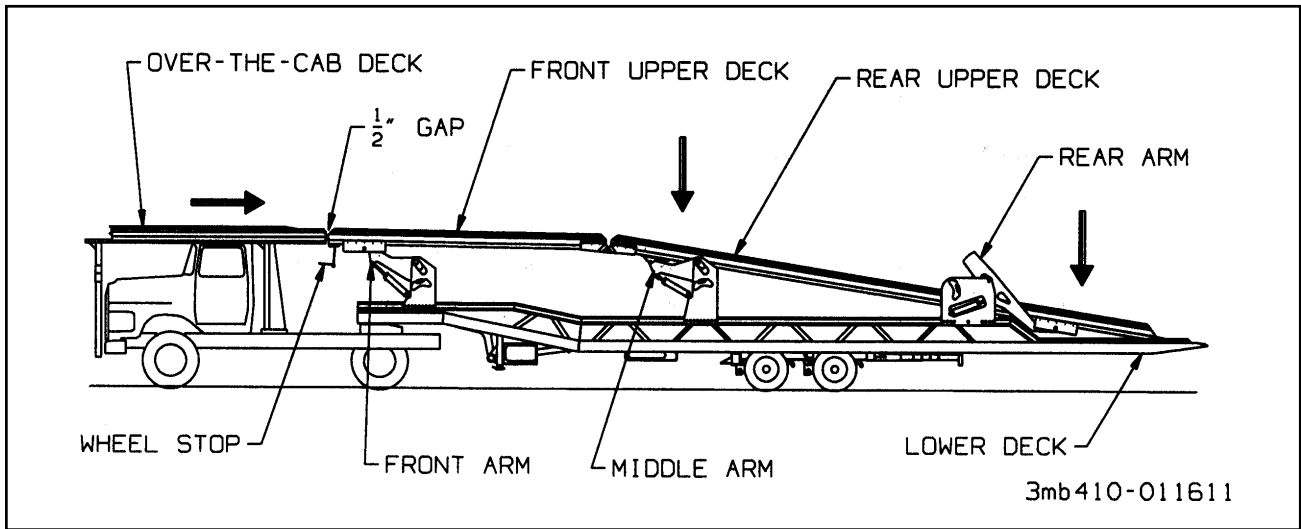

Figure 3-7 Lining Up the Over-the-Cab Deck
- 3-14.1 Unlock and lower the middle arm as far down as it will go (**See Figure 3-7**).